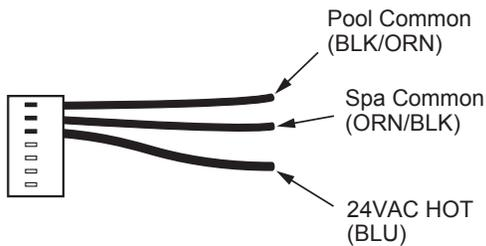

Figure 31. 7-Pin Remote Interface Harness
The P-156 heaters are equipped with the ability to work with external remote controls. The P-106 is not equipped for remote operation. The supplied 7-pin remote wiring connector supplies power out to either a toggle switch or the switch contacts of a third-party remote. See **Figure 31**. The remote works by either making or breaking the circuit created by the remote wiring. Typically, a remote does not supply power to the heater, it only provides a switching function to turn the heater On or Off. **If your remote is supplying its own voltage to the heater, it will not work with this heater and may damage the digital circuit board.**
5. On the "Remote Interface Harness", connect the BLUE wire to one side of the "REMOTE" switch and connect the other side to either the ORANGE/BLACK wire for "SPA" operation or the BLACK/ORANGE wire for "POOL" operation. See **Figure 31**.
5. On the "Remote Interface Harness" connect the BLUE wire to one side of the "REMOTE" switch and connect the ORANGE/BLACK wire for "SPA" operation and the BLACK/ORANGE wire for the "POOL" operation. See **Figure 31**.